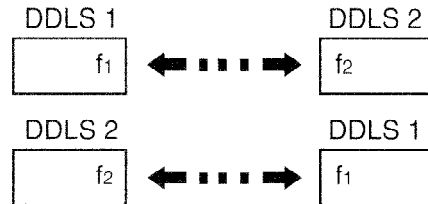

Fig. 36 Parallel mode
- For parallel data transmission paths in accordance with Fig. 36,